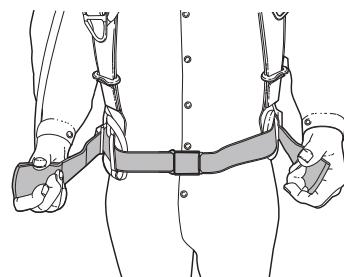

Fig. 18 Pulling the ends of the waist belt
6. Pull the ends of the waist belt forward (Fig. 18). The belt padding should fit securely and comfortably over the hips.